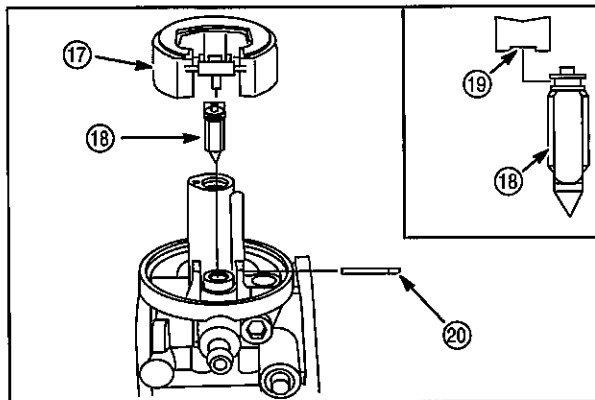

Fig. 54
- 12. Assemble inlet needle retainer (19) to inlet needle (18). Assemble to float (17), **Fig. 54**.
- 13. Install float to carburetor body. Install float hinge pin (20) with swaged end out.